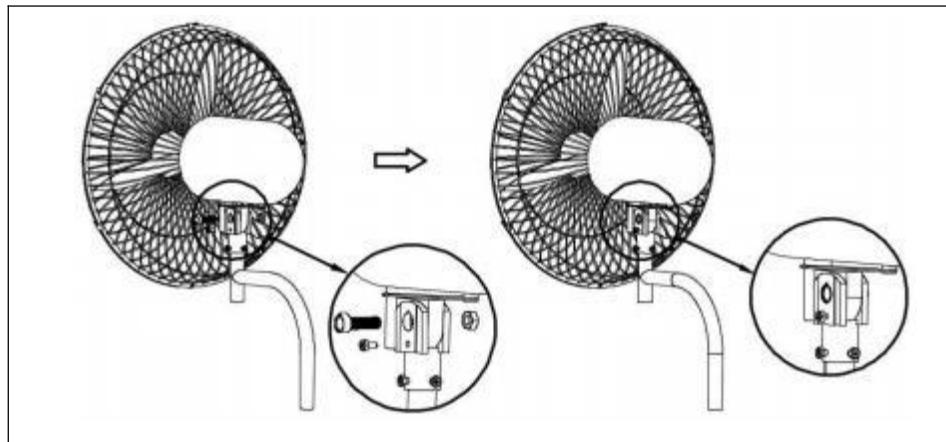

Fig.8.
1). Install the fan head on the bracket, then lock the bracket screws4(10) and bracket nuts1(11), and finally lock the bracket screws3(9). See the (Fig.8.)